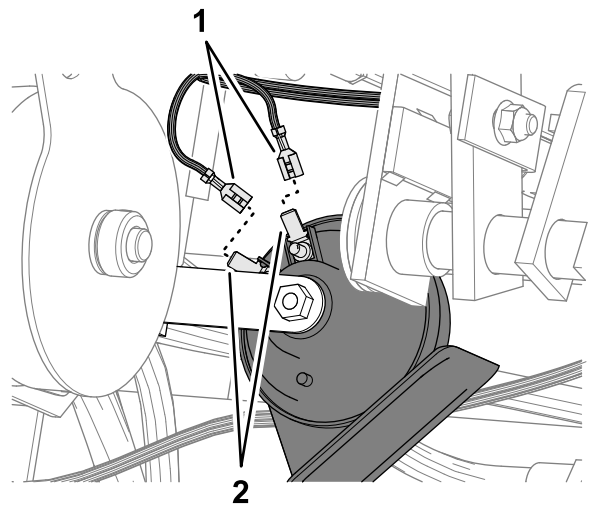

**Figure 15**
1. Route the kit wire harness rearward, along the traction-control cable (Figure 15).